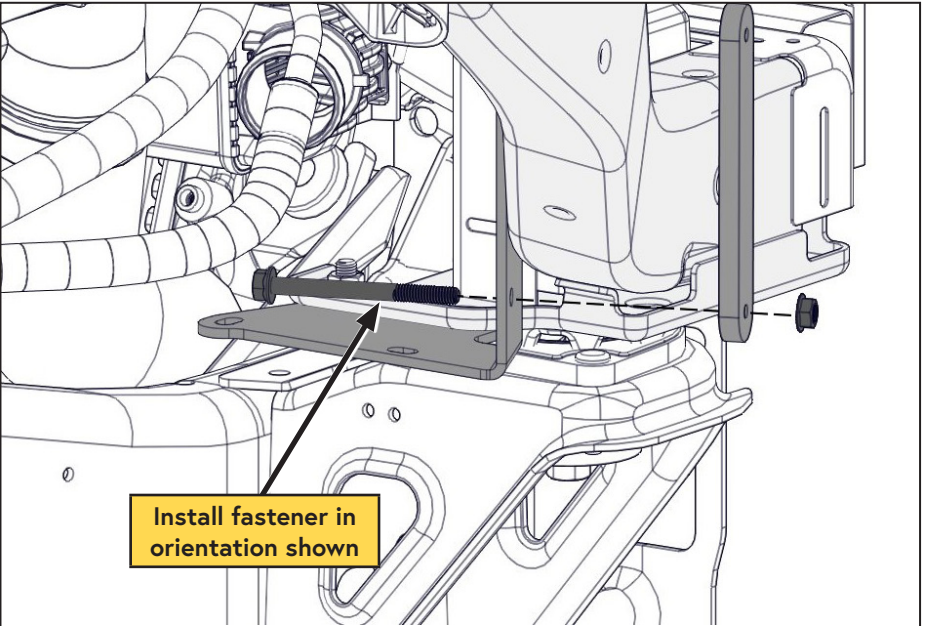

Figure 31 — Install backing strap
- ☐ Install the bottom fastener into the backing strap, leaving the nut finger tight (Figure 31).